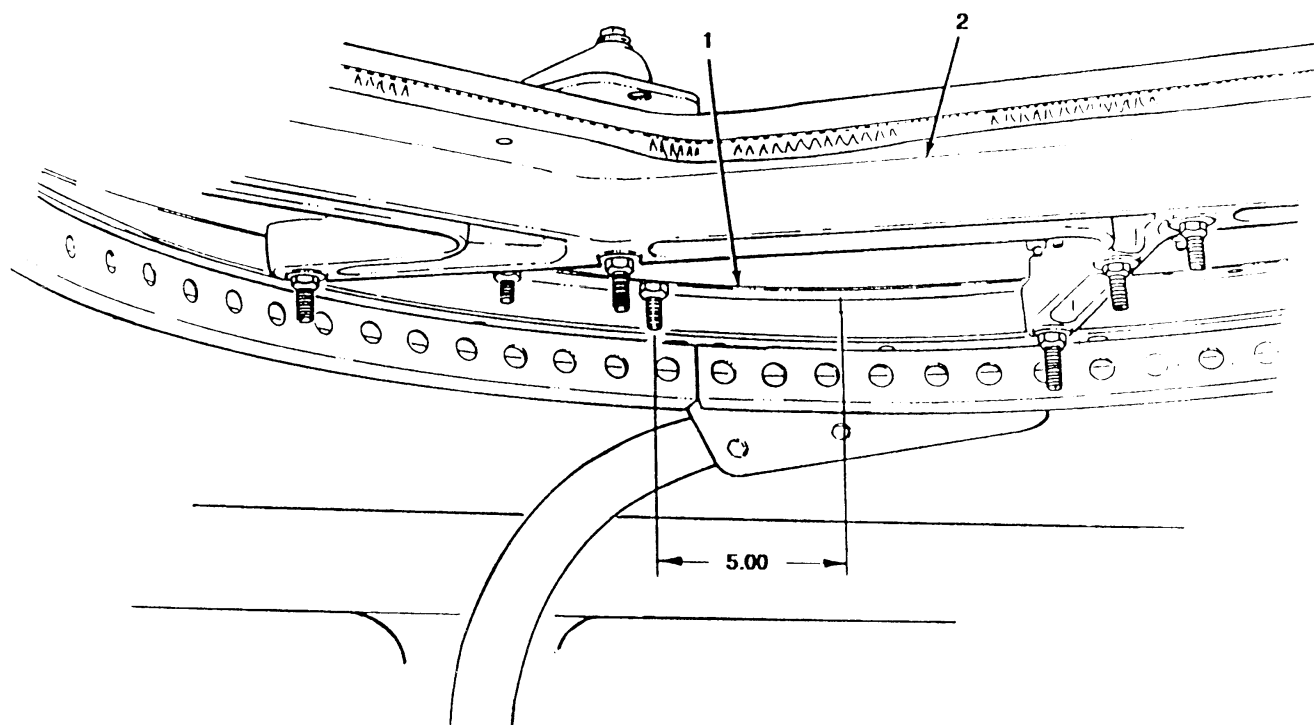

FIGURE 3-12
1. Locate and mark position on inner bearing (1) between widest crossmembers of hatch tube (2). (see figure 3-12)